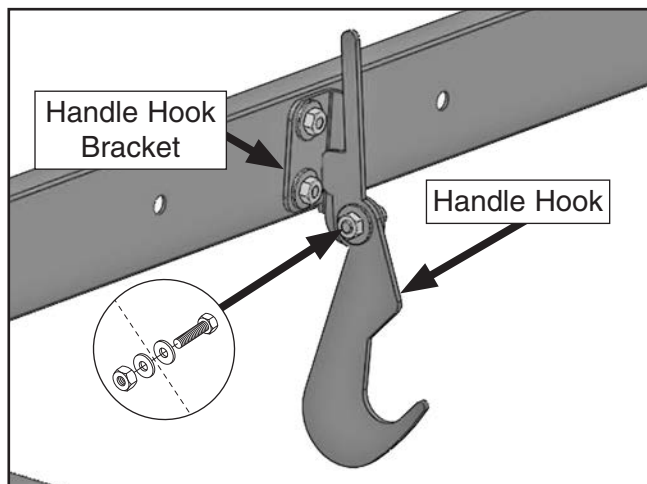

Figure 33. Handle hook attached to hook bracket.
39. Attach handle hook to bracket with (1) $\frac{3}{8}$ "-16 x 1" hex bolt, (2) $\frac{3}{8}$ " flat washers, and (1) $\frac{3}{8}$ "-16 lock nut (see **Figure 33**).